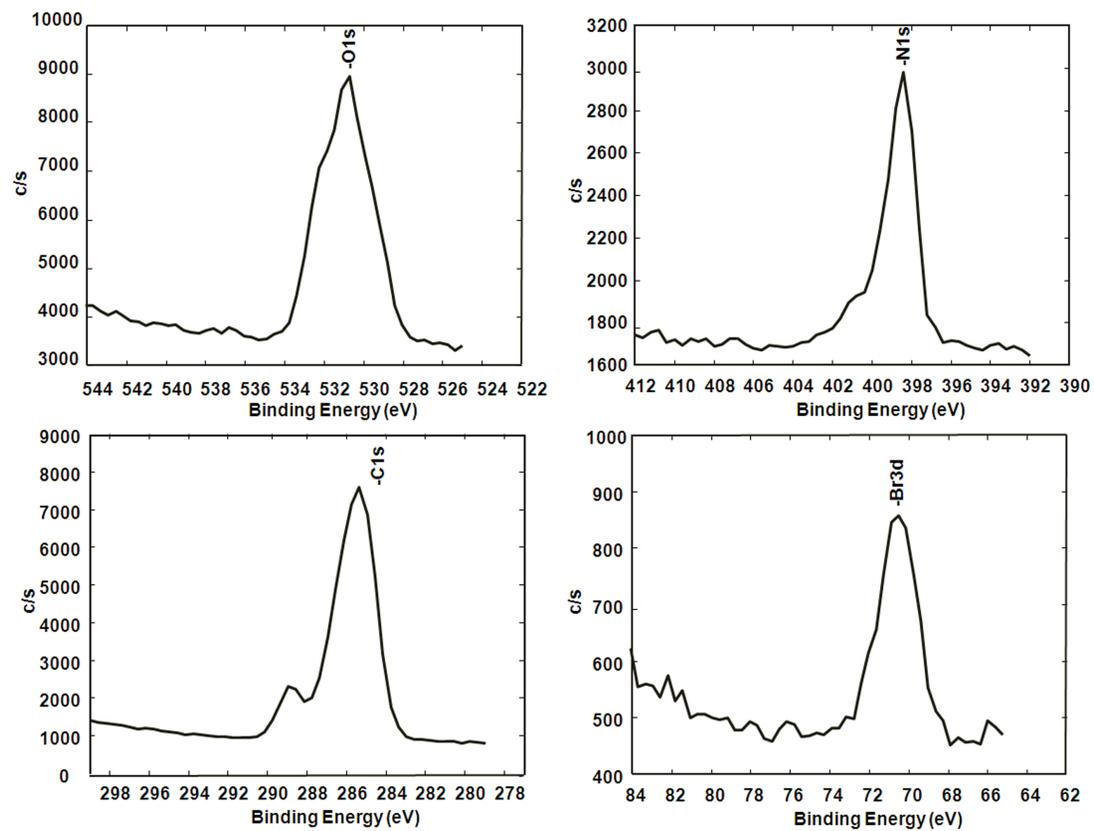

Fig. S7 XPS spectra of O1s, N1s, C1s, and Br3d regions of PDMAEMA-grafted filter paper.
- 12 **Fig. S7** XPS spectra of O1s, N1s, C1s, and Br3d regions of PDMAEMA-grafted filter paper.